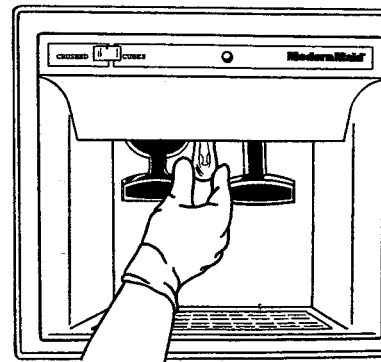

Figure 82
b. Wear protective gloves to remove defective bulb and replace with functioning bulb. See Figure 82.